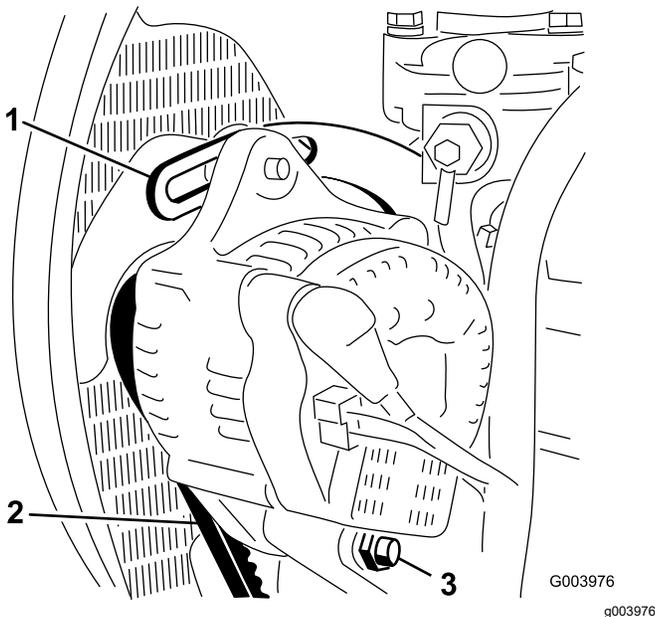

Figure 116
3. Check the tension of the alternator belt by pressing it (Figure 116) midway between the alternator and the crankshaft pulleys with 10 kg (22 lb) of force.
4. Loosen the bolt securing the alternator to the brace, and the alternator pivot bolt. (Figure 116)